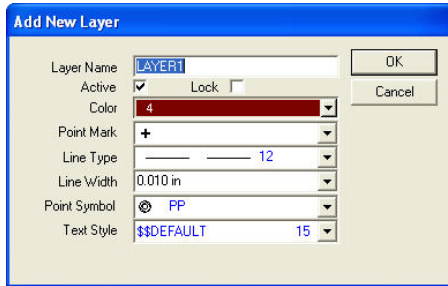

Figure 7-7. Add New Layer
3. The *Add New Layer* dialog box appears (Figure 7-7) with a default layer name and layer properties.